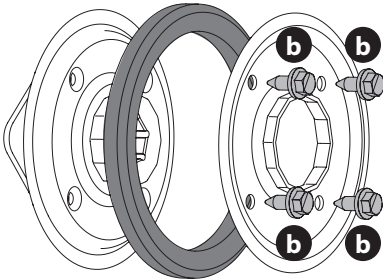

Figure 93
- Remove four screws (b) which secure friction wheel's side plates together (Figure 93).